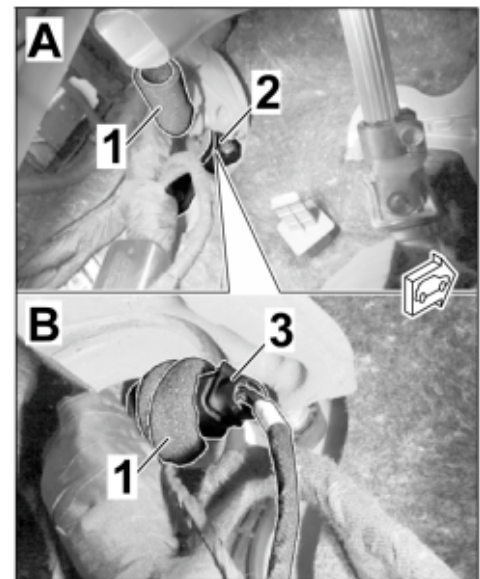

Figure 27
3.1.1 Expose the connection point (preparation = socket connector, 6-pin) in the passenger compartment of the vehicle, area of firewall grommet, A-pillar left. ⇒ Figure 27 -A-
3.1.3 Establish a connection between the plug connection preparation and the wire harness for the exhaust flaps (6-pin). ⇒ Figure 27 -B-